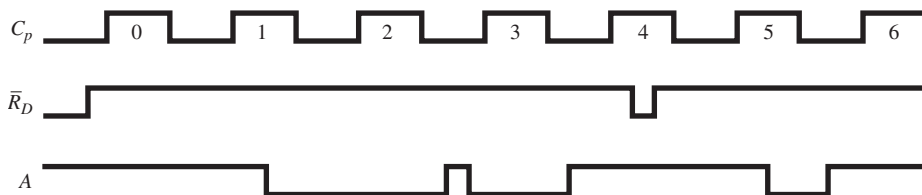

Figure P3
3. Change the OR gate to a NAND and repeat Problem 2 for the input waveforms shown in Figure P3.